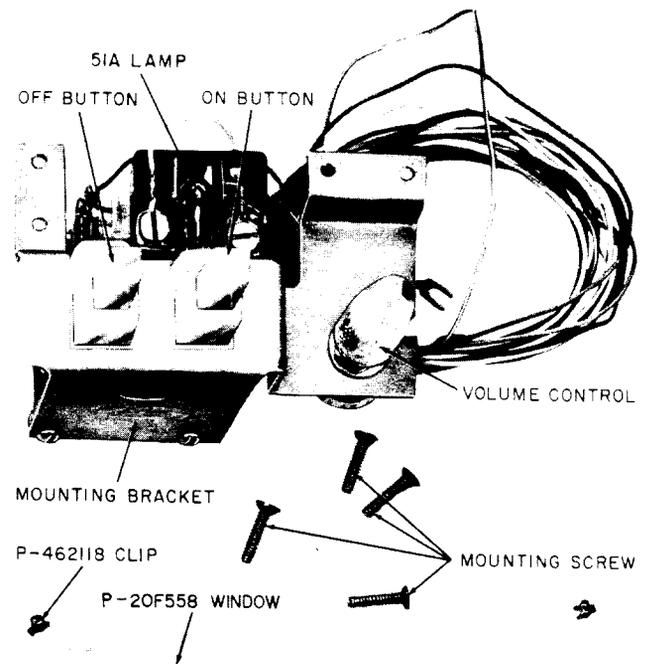

Fig. 8—613C Key
2.24 The 613C key (Fig. 8), an on-off switch and volume control for speakerphone circuits similar to 1A, consists of a two-pushbutton (ON-OFF) key and a 5000-ohm potentiometer assembled on a